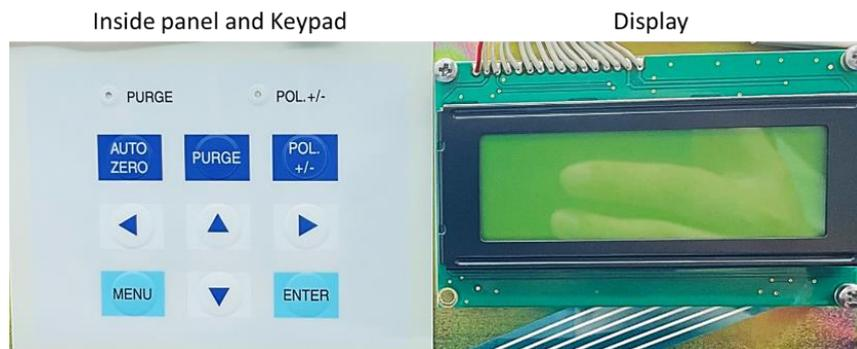

Figure 3. Inside keypad and display of YL9170 RID
7. When you turn on the power of YL9170 RID, liquid crystal display (Figure 3) is turned on at the same time (installed on the left side of the RID from the front.).